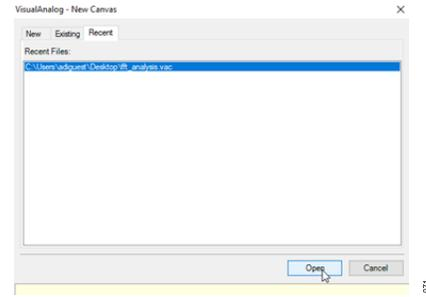

Figure 68. Opening the VisualAnalog - New Canvas
- ▶ Open the `fft_analysis.vac` canvas from the Desktop. The canvas may also be opened from the Recent tab in the New Canvas window when VisualAnalog opens (see Figure 68).